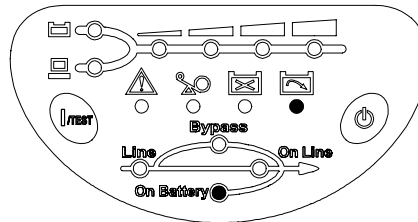

Fig 4-8 Battery Low
- BATTERY LOW:** This function is to inform user the remaining power capacity of the batteries. When batteries reach a low level condition, the UPS alarm will beep half second every 1.5 seconds until running out of battery capacity. Shown as fig 4-8.